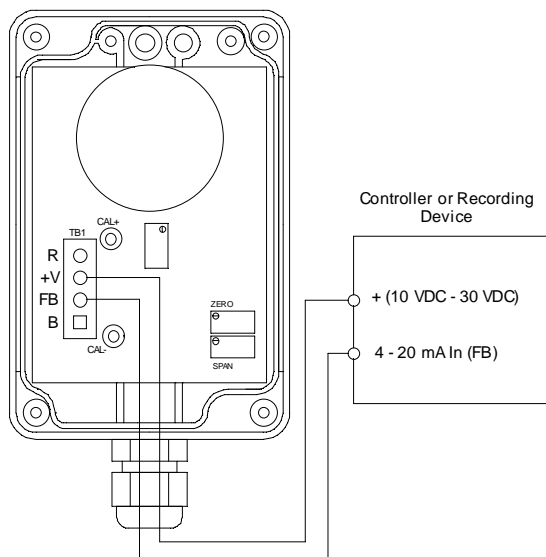

Figure 3: Wiring the H₂S Transmitter to a Controller
5. Connect the two wires to the interconnect terminal strip as follows (see Figure 3).
8. Connect the wires to the applicable controller transmitter terminal strip as shown in Figure 3 below.